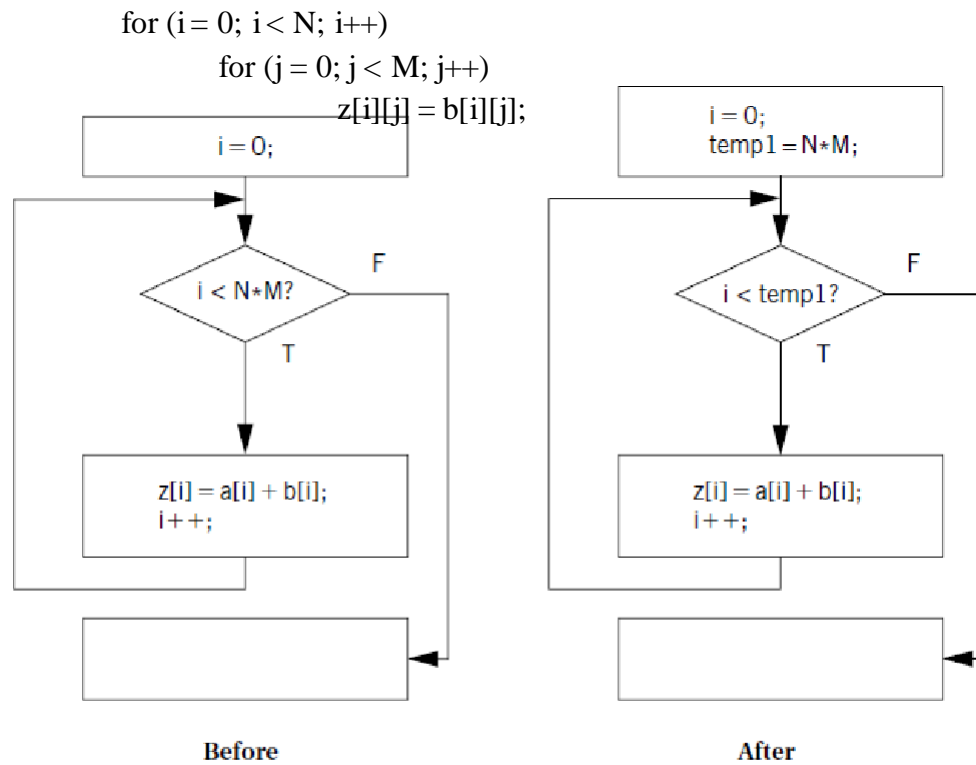

FIGURE 5.23
- The code motion opportunity becomes more obvious when we draw the loop s CDFG as shown in Figure 5.23.